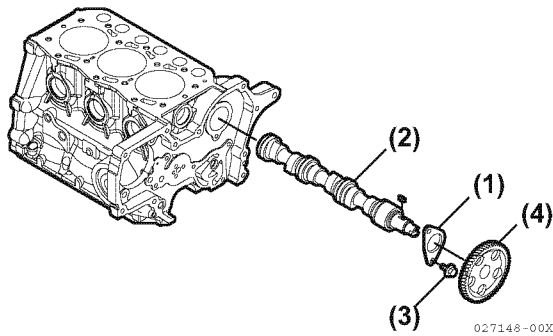

Figure 6-98
- If removed, reinstall the camshaft end plate (Figure 6-98, (1)), key, and camshaft gear (Figure 6-98, (4)) onto the camshaft using a press.
- Lubricate the camshaft (Figure 6-98, (2)) with clean engine oil or assembly lube. Slowly insert the camshaft through the front of the engine.
- Reinstall and tighten the cap screws (Figure 6-98, (3)).